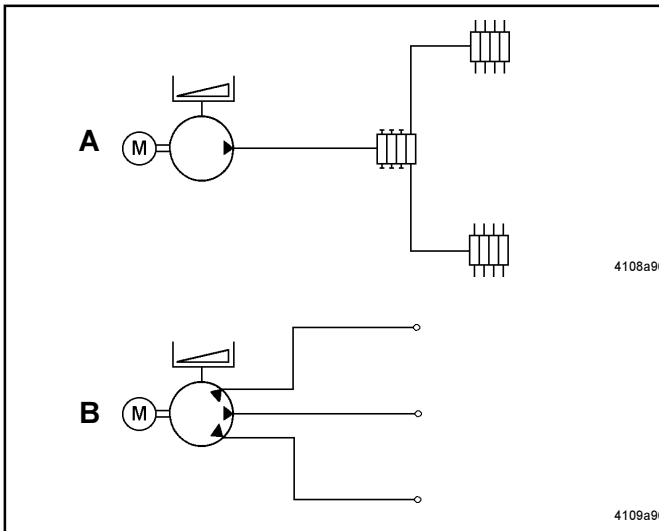

Fig. 1 - Sample Applications of multiline pump 230
- Pump model 230 used as a central lubrication pump for the supply of large-sized progressive systems (Refer to A, Fig. 1).
- Pump model 230 used as a multiline pump for the direct supply of individual lubrication points (Refer to B, Fig. 1)